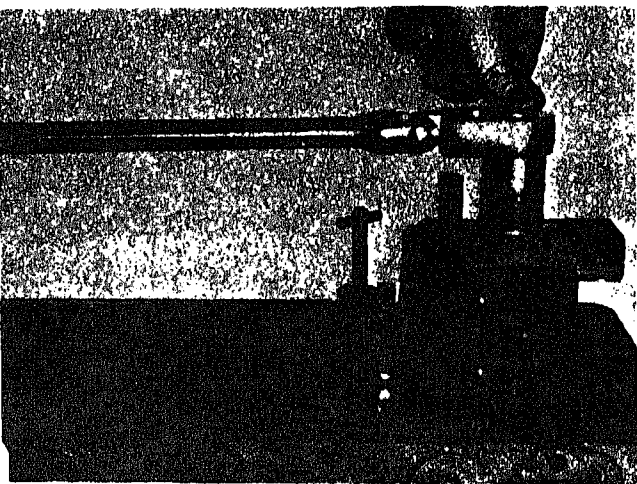

Fig. 2-1-14. Regroove cylinder head
If the cylinder head has been resurfaced or has not been grooved previously, it will be necessary to cut grooves in the cylinder head over each cylinder liner. These grooves will assure a better seal between the cylinder head gasket and block during engine operation. Fig. 2-1-14. Use ST-597 or ST-913 Cylinder Head Grooving Tool to perform this operation.
- (1) Place housing, with tool holder secured in place, on a surface plate or similar flat surface.
- (2) Loosen setscrews holding tool adjusting screw and turn adjusting screw down until tool cutting bit touches surface plate.
- (3) Remove grooving tool from surface plate and turn adjusting screw down three notches, or 60° , to lower cutting tool bit approximately 0.006 in. [0.1524 mm].
- g. Rotate grooving tool clockwise to cut groove. The tool bit is spring loaded in the tool holder and will ride over any "hard" spots on the head surface. It may take two or three revolutions to get a smooth even cut in the head. Fig. 2-1-14.